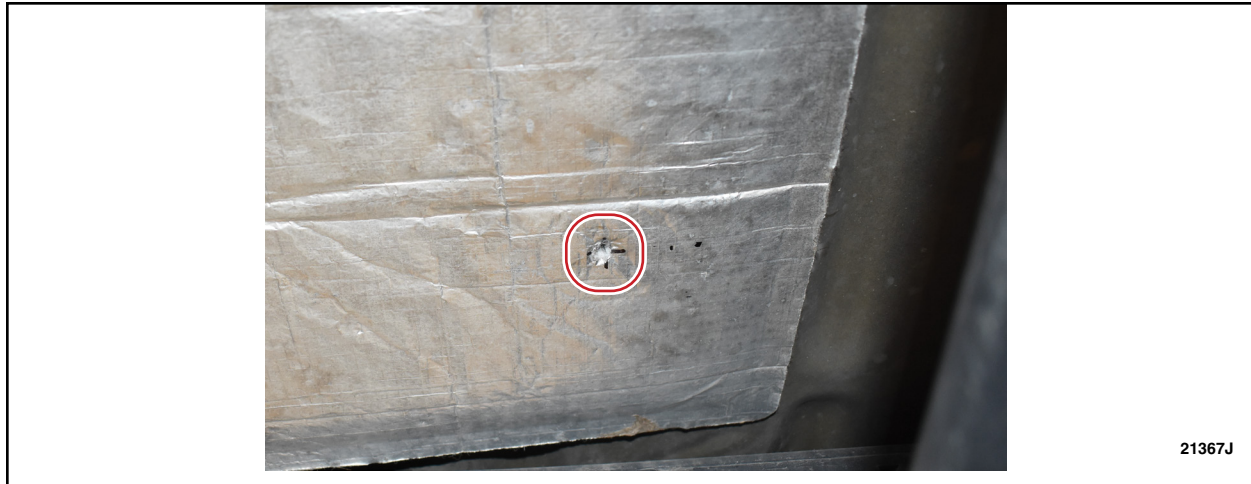

FIGURE 10
9. Using the 6.7mm (17/64 in) drill bit, drill a hole through the insulator and into the floor. See Figure 10.